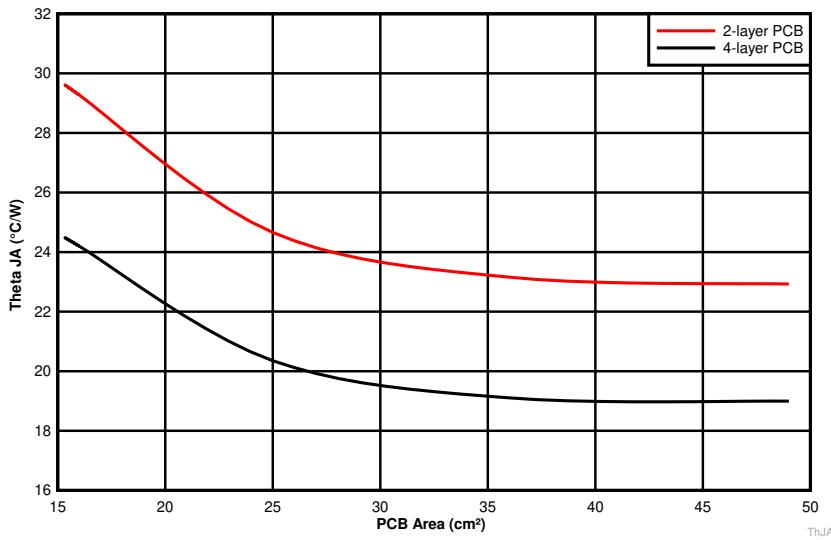

Figure 9-5. θ_{JA} vs PCB Area
The amount of PCB copper effects the thermal performance of the device. Figure 9-5 shows the effects of copper area on the junction-to-ambient thermal resistance ($R_{\theta JA}$) of the LMZM33602. The junction-to-ambient thermal resistance is plotted for a 2-layer PCB and a 4-layer PCB with PCB area from 16 cm^2 to 49 cm^2 .
3. Reference Figure 9-5 to determine the minimum required PCB area for the application conditions.